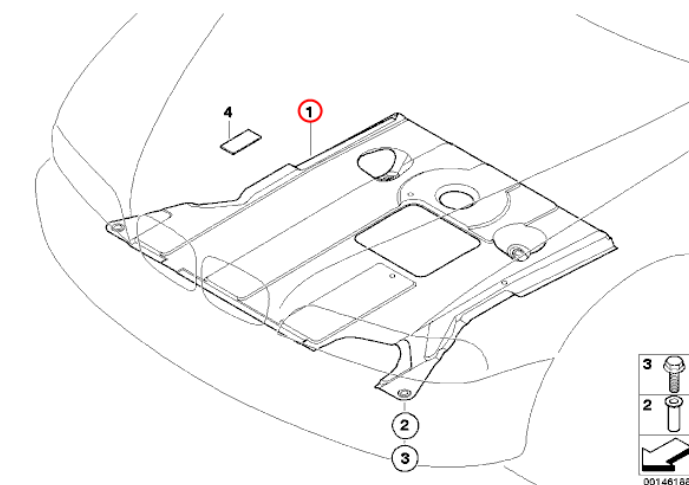

Figure 4
11. Dismantle the underride protection (Figure 4, #1).